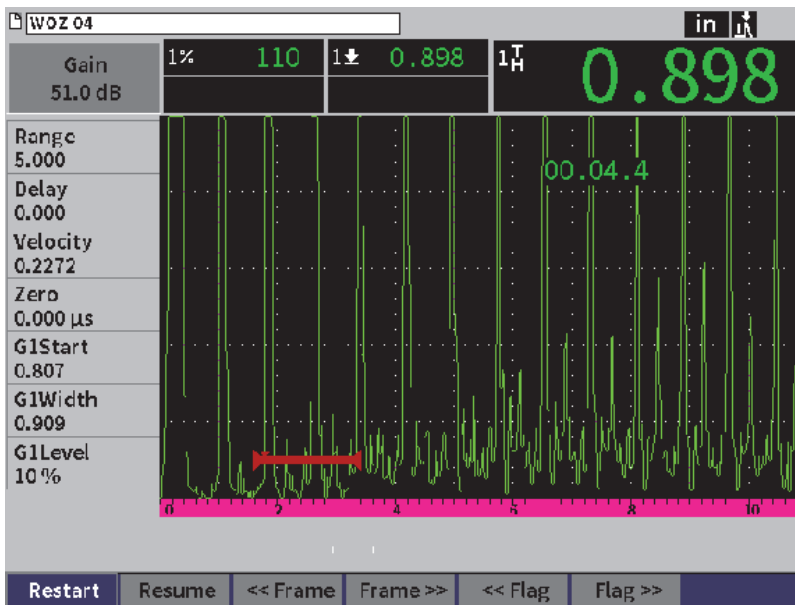

Figure 9-32 Video review setup page
3. Press the Enter key to display the reviewing page (see Figure 9-32 on page 140).